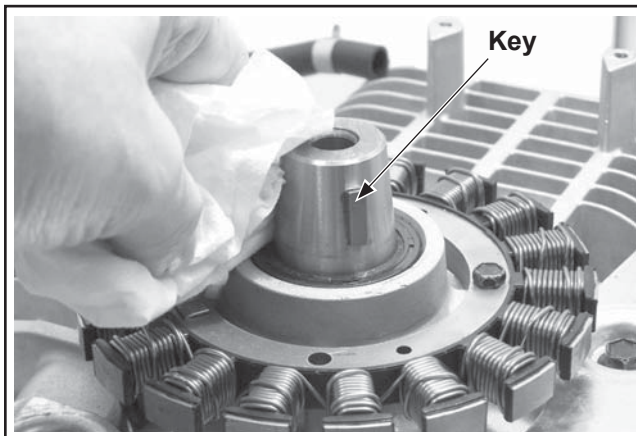

Figure 10-34. Clean and Dry Taper of Crankshaft, Install Key.
1. Install the woodruff key into the keyway of the crankshaft. Make sure that the key is properly seated and parallel with the shaft taper. See Figure 10-34.